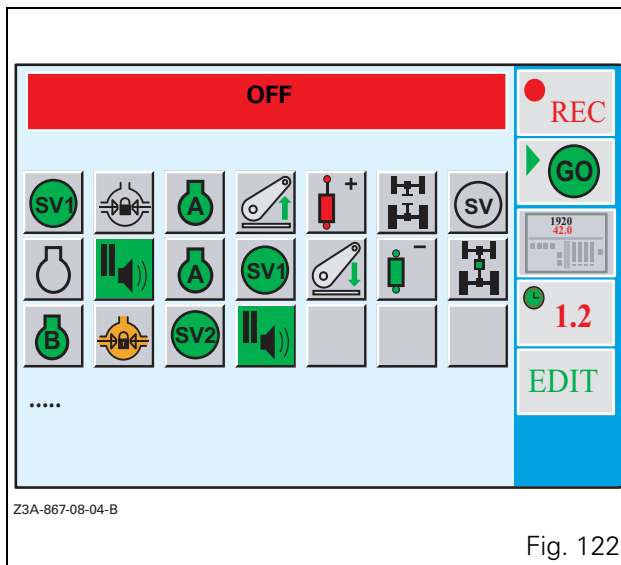

Fig. 122
- Validate either by pressing the encoder, or by pressing key \ll_1 . The window (Fig. 122) is displayed with the changed icon.